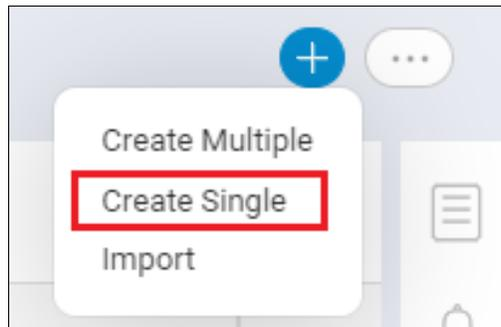

Figure 5-23 Create Single option
3. Click the **+** icon in the upper right of the window, and then select the **Create Single** option from the available options, as shown in Figure 5-23.